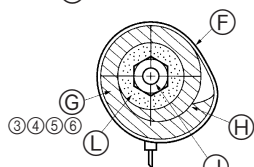

Fig. 7-3
- ⑤ Section of connection (Fig. 7-3)
- ⑥ Band ⑨
- ⑦ Pipe covers ③ ④ ⑤ ⑥
- ⑧ Tighten
- ⑩ Thermal insulation for refrigerant piping
- ⑪ Refrigerant piping